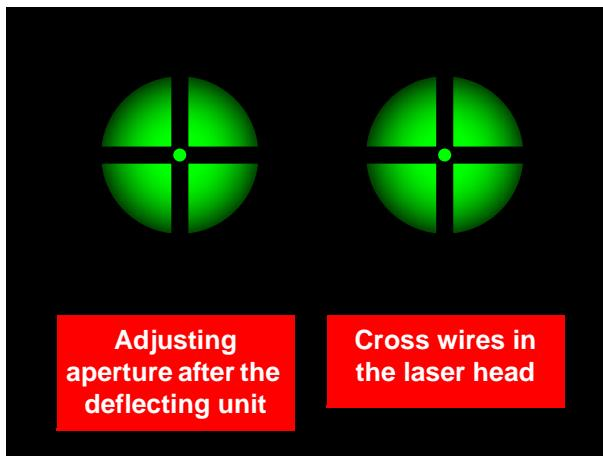

Figure 6.35 Beam adjustment OK
25. If no more deviations in the image can be determined, the adjustment is okay (see Figure 6.35).